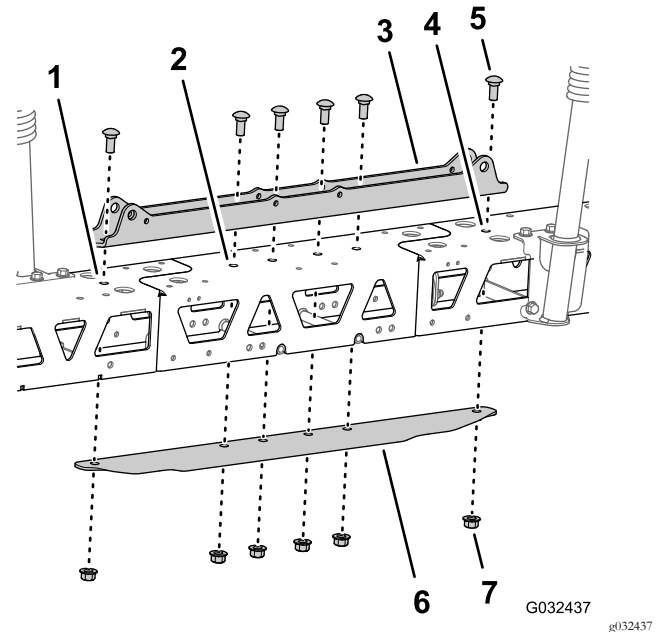

Figure 77
- Align the holes in the cylinder mount with the holes at the center line of the truss frame and center boom extension (Figure 77).
- Insert the tie plate into the truss frame and center boom extension and align the hole in the tie plate with the holes at the center line of the trusses and boom extension (Figure 77).
- Assemble the cylinder mount, trusses, center boom extension, and tie plate with the 2 carriage bolt (1/2 x 1-1/4 inches) and 2 flange locknut (1/2 inch) that you removed in step 2 of Separating the Center Boom Section Trusses (page 32), and the 4 carriage bolt (1/2 x 1-1/4 inches) and 4 flange locknut (1/2 inch) from the GeoLink spray system finishing kit (Figure 77).